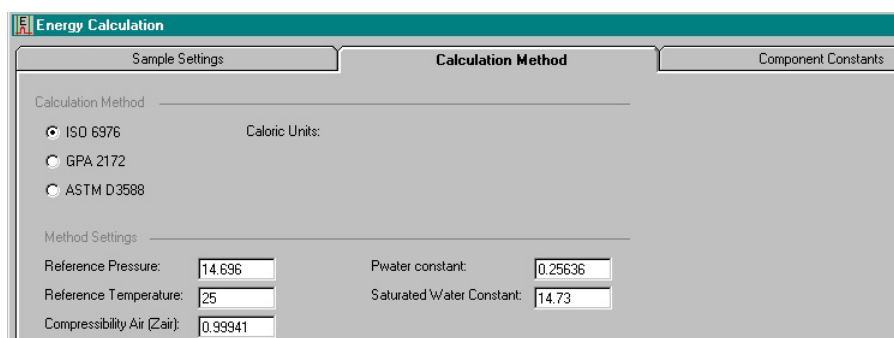

Figure 64: Calorific Power - Calculation Method tab
- In 'Calculation Method' tab select Calculation Method, Caloric Units, Conversion factor and a number of method settings used for Calorific power, see Figure 64.